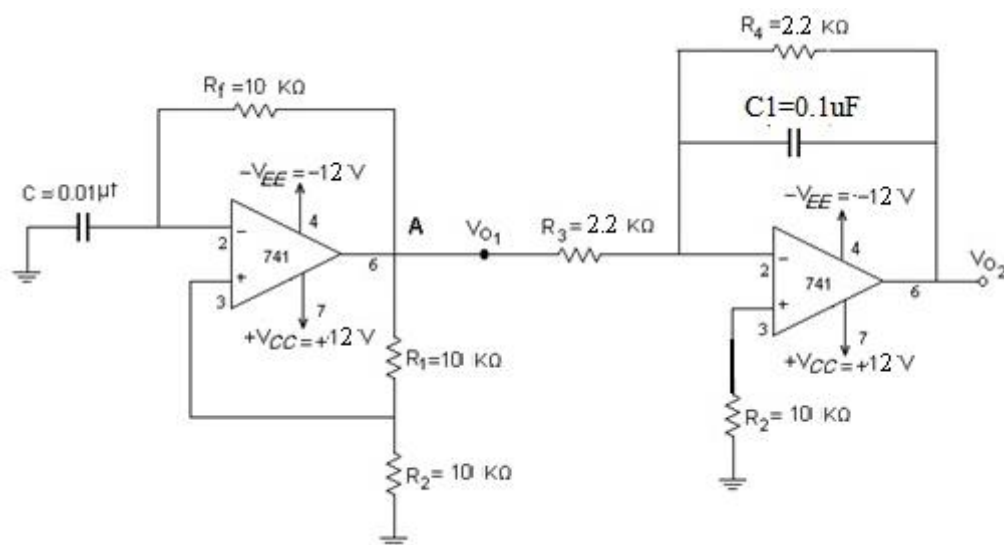

Figure 2
- Connect the circuit as per the diagram shown in Fig.2
1. Connect the circuit as shown in figure:2